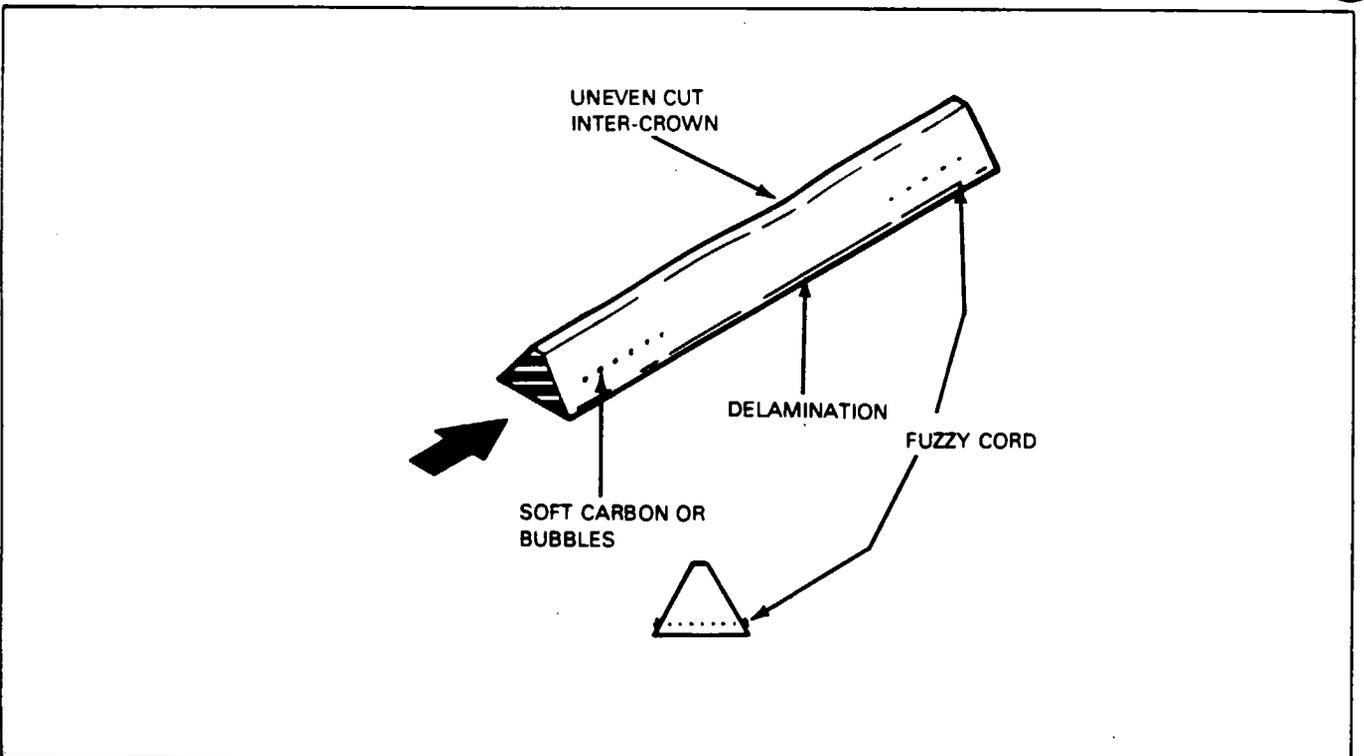

Figure 21-22. Belt Inspection
**BELT INSPECTION (DELCO AND SANKYO COMPRESSOR INSTALLATIONS).** (Refer to Figure 21-22.)